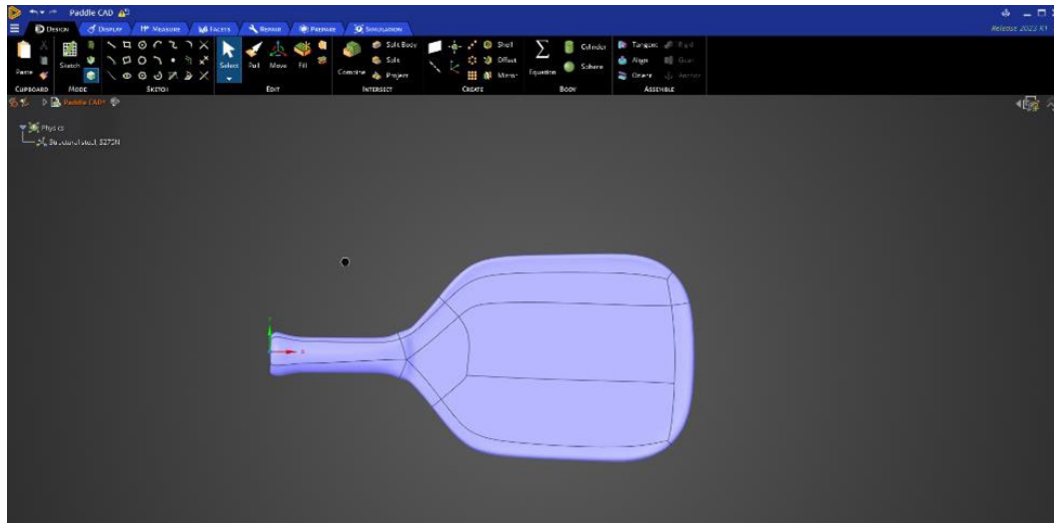

Figure 11: Final geometry displaced to the origin and rotated to align with the y-plane
- Refer to step 5 in Tutorial 1 for more guidance with this step. Figure 11 shows the paddle aligned correctly.